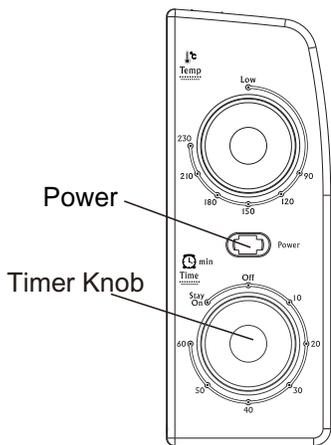

fig.9.
4. When toasting is finished the bell will ring and the electrical power is automatically turned off. To stop the cycle at any time, turn the Timer Knob clockwise to "off" position and the bell will ring. See fig.9.